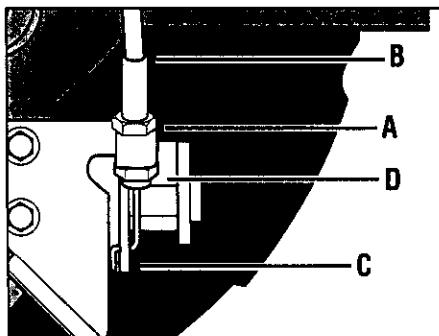

Figure 4-7: Wheel gear cable assembly.
2. Loosen the top adjustment nut (A, Figure 4-7) on the wheel gear cable bracket that is located on the left side rear of the transmission.
3. Push the wheel gear cable (B) down and roll the tiller slightly forward or backward until the eccentric lever (C) engages (locks) the wheels. Hold the cable in that position and tighten the top (A) and bottom (D) adjustment nuts.